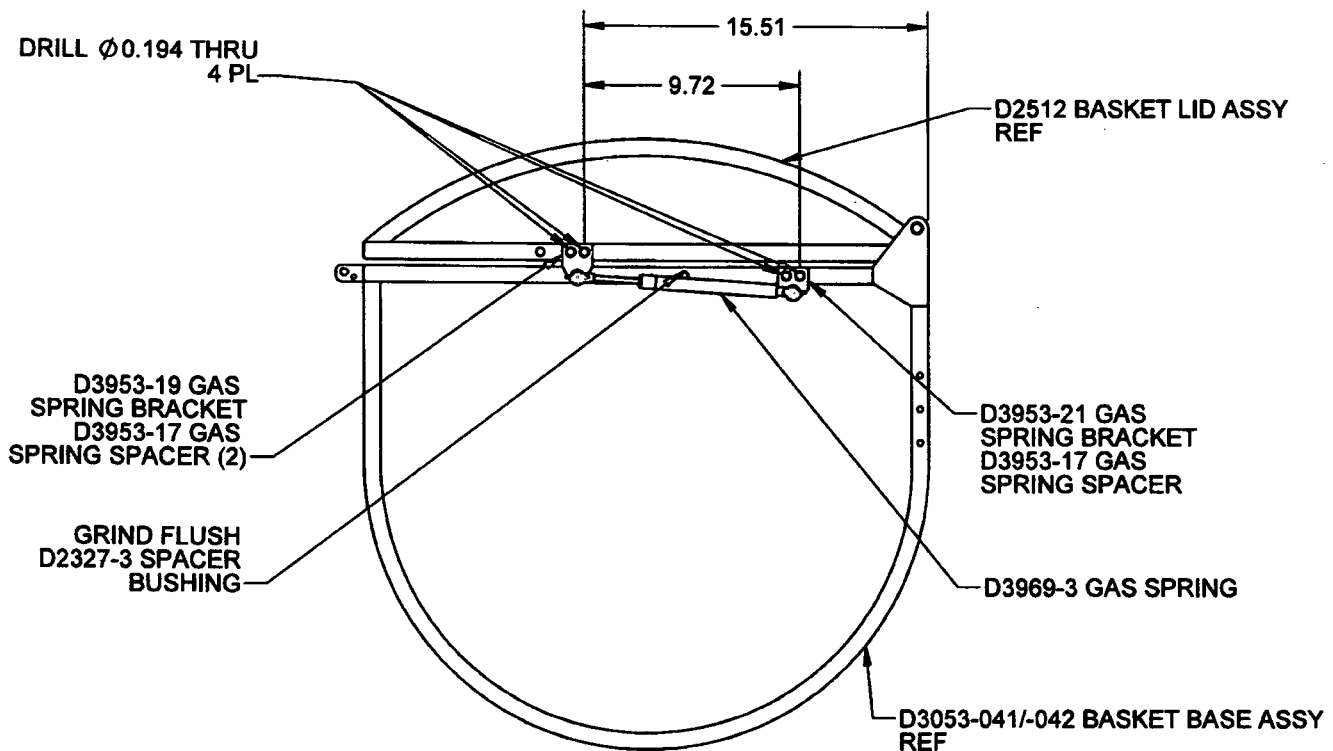
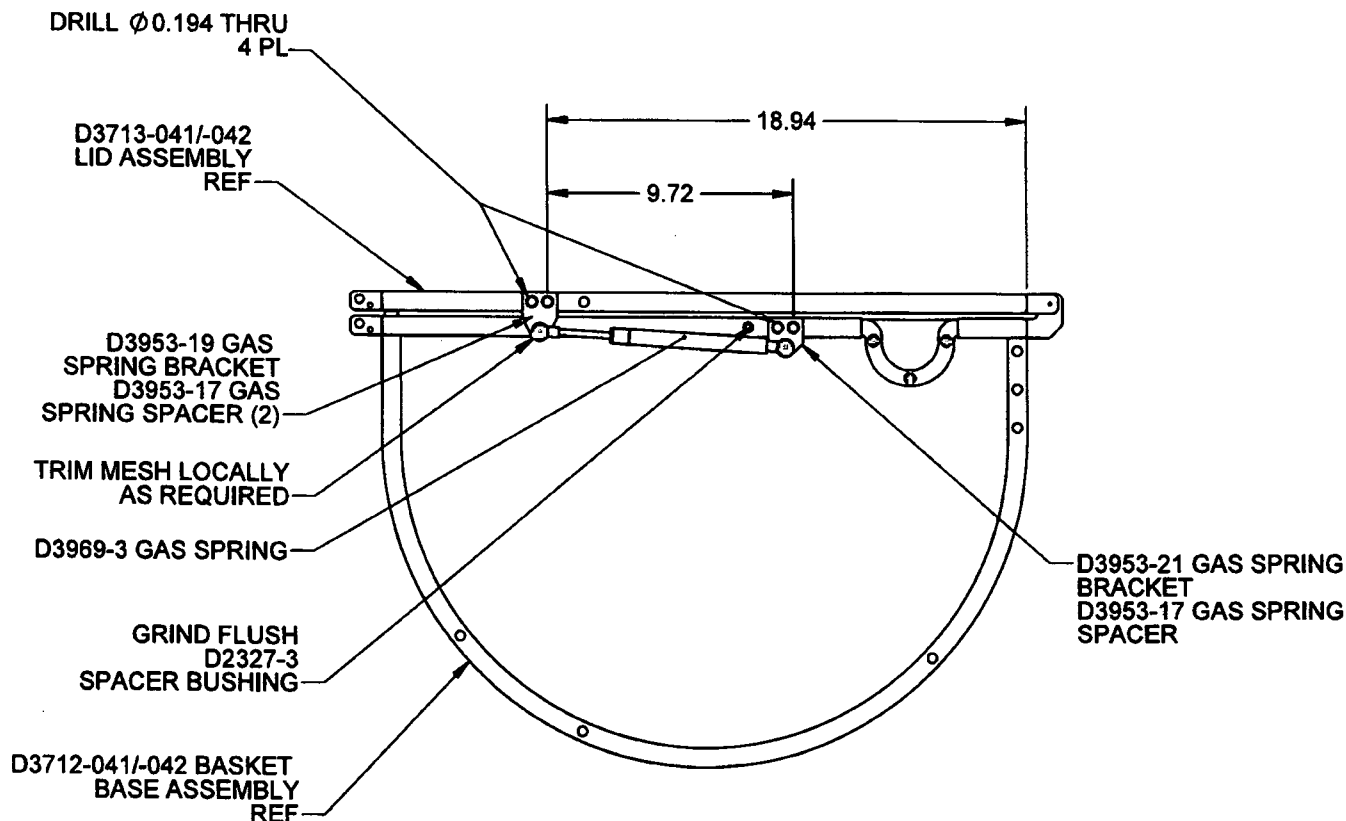

FIGURE 1: D205-541-051 AUTOMATIC LID OPENER INSTALLATION
FIGURE 2: D205-541-051 AUTOMATIC LID OPENER INSTALLATION
- 3.3 Locate the D3953-17 Gas Spring Spacer on the basket lid per Figure 1 (-043/-044) or Figure 2 (-045/-046). Trim steel mesh locally as required. Transfer mark and drill 2X $\varnothing 0.194$ holes thru basket lid. Touch up paint per ICA-D205-541, Section 5.1.5. (Later model D2512 Basket Lids may be pre-drilled for gas spring brackets)
- 3.5 Locate the D3953-17 Gas Spring Spacer on the basket base as shown in Figure 1 (-043/-044) or Figure 2 (-045/-046). Trim steel mesh locally as required. Transfer mark and drill 2X $\varnothing 0.194$ holes thru the basket base. Touch up paint per ICA-D205-541, Section 5.1.5.